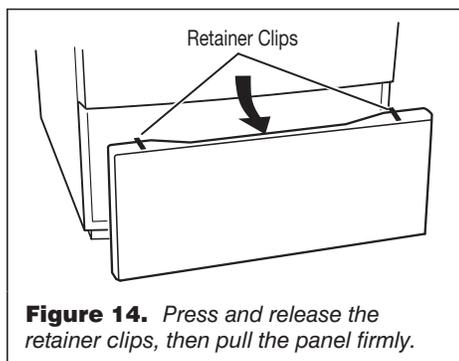

**Figure 13.** Door switch location.
- Check that the wires between the door switch and machine control electronics are connected. See figure 13 for switch location, and see Accessing and Removing the Electronic Assemblies, page 11.